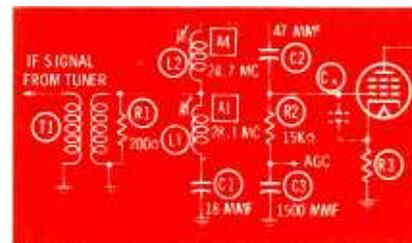

Fig. 5. Input circuit of video IF amplifier.
To acquaint the reader with the calculation of impedance Z of series tuned circuits, let us consider the following example: A television receiver employing a 28.1-mc trap at the control grid of the first video IF amplifier is shown in Fig. 5. You will notice that this circuit is the same as the one in Fig. 4 except that the DC resistance of the inductor L_1 is not indicated by a separate symbol. The capacity of C_1 is 18 mmfd and the inductance of L_1 is $1.8\mu\text{h}$. A measurement shows the resistance of L_1 to be 0.16 ohms.
To find the impedance at resonance (28.1 mc) of the series tuned trap network shown in Fig. 5, let us first find X_L and X_C using equations (1) and (2).
It may be seen from this example that the impedance of a series tuned circuit is equal to the DC resistance when the circuit is at resonance. At any frequency other than the resonant frequency of the series tuned circuit, X_L and X_C are not equal and therefore Z will have a higher value than that found at resonance. Referring again to the circuit of Fig. 5, let us figure the values of X_L , X_C and Z at 26.1 mc (2 mc below the resonant frequency of the circuit).
is located. Again referring to Fig. 5, we see that the series tuned circuit we have been discussing is in parallel with the secondary of an untuned transformer which is also in parallel with a 200-ohm resistor. In addition, another series tuned circuit consisting of L_2 , C_2 and C_X is connected in parallel with the secondary of transformer T_1 . The resistor R_2 is an isolation resistor between the control grid and the AGC system and does not contribute anything as a grid load; however, it does act as the DC return path between the grid and ground. The dotted-in capacitor C_X is the input or grid-to-cathode capacitance of the IF amplifier tube plus the stray capacitance of the wiring between the grid and ground. The total value of this capacitance varies but is generally about 10 mmfd.